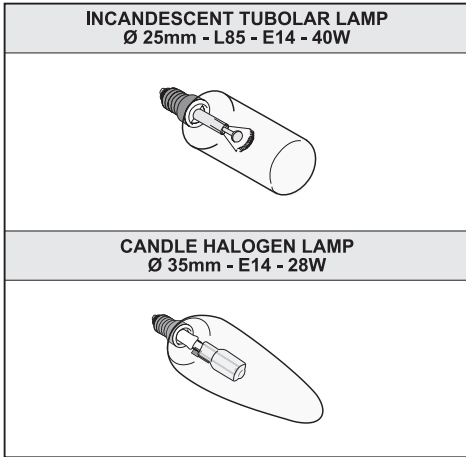

Fig.11
• Replacing the halogen/incandescent lamps (Fig.11):